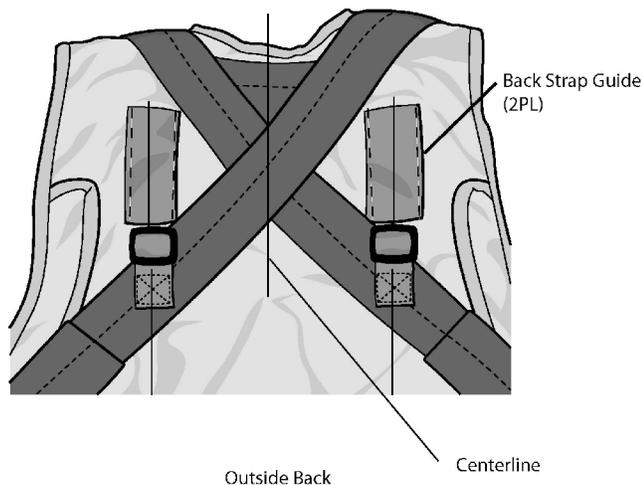

Figure 10. Attachment of Single Slide Bars
(20) With the outside back facing up, align the centerline of the single bar slide assemblies with the centerline of the back strap guides. Sew in place approximately as shown in Figure 10.